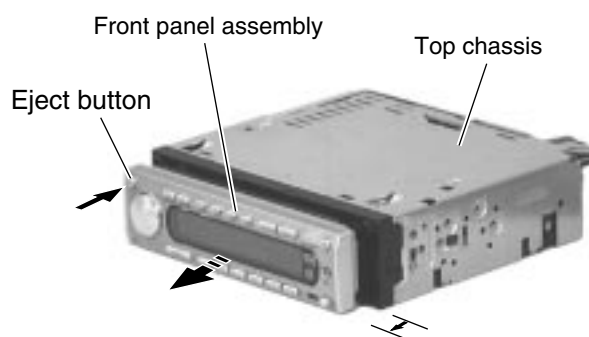

Fig.2
### ■ Removing the top chassis (See Fig.2 to 6)
1. Press the eject button in the upper left part of the front panel assembly to move the assembly as shown in Fig.2 and turn off power.